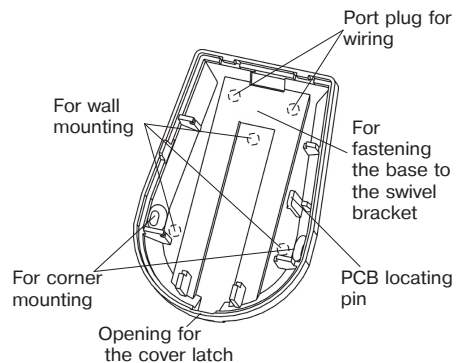

Figure 2 – Base
- Push the lock with a screw-driver through the hole on the lower side of the Detector base (See Figure 2) and remove the cover.